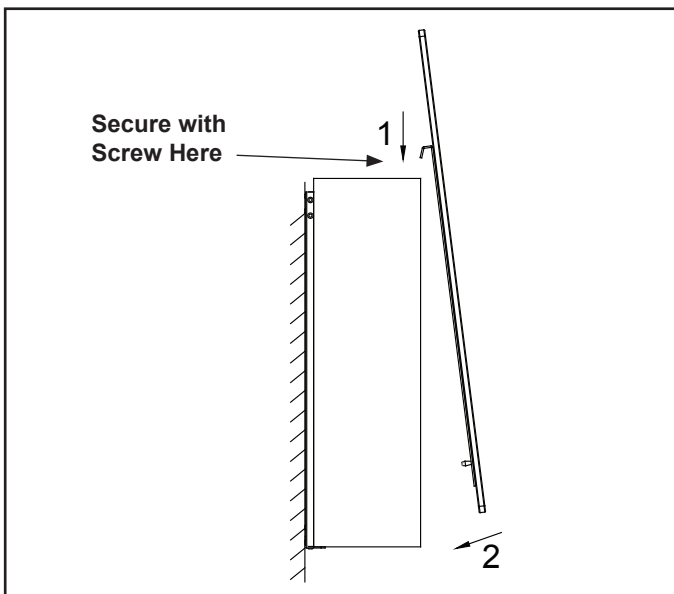

Figure 3 Attaching Fireplace to Bracket
2. Install glass front as shown in Figure 3. Engage tabs on rear face of glass with the slots in the top of the appliance. Install glass front so that the tabs on its back side engage the slots in the top of the appliance. Once both tabs engage, press firmly against the bottom face of the glass panel to engage the bottom connectors.
3. Secure the glass front to the appliance with two screws (removed in step 1) through the two glass front mounting brackets on the top of the appliance. See Figure 3.